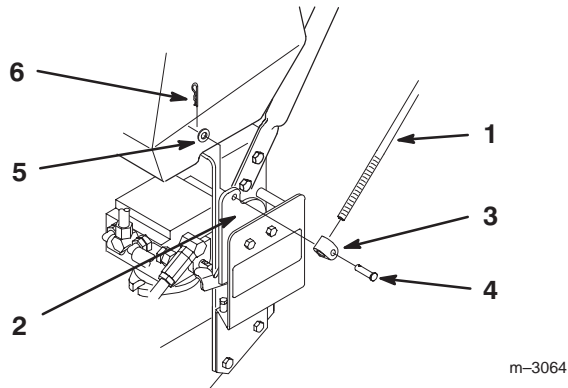

Figure 3
1. Slide clevis pin through rod fitting and mounting hole in control bracket (from outside). Secure with washer and hairpin cotter (Fig. 3).
4. Push rod full forward until bearing is against control bracket stop. Thread rod in or out of fitting on control bracket until rod aligns with holes in upper control bars (Fig. 3).
5. When rod and holes in upper control bars line up, turn rod one (1) additional turn, so rod is shorter.
4. Push rod full forward until bearing is against control bracket stop. Loosen wing nut and thread turnbuckle in or out until rod aligns with holes in upper control bars (Fig. 3).
5. When rod and holes in upper control bars line up, rotate turnbuckle one (1) additional turn, so rod is shorter.